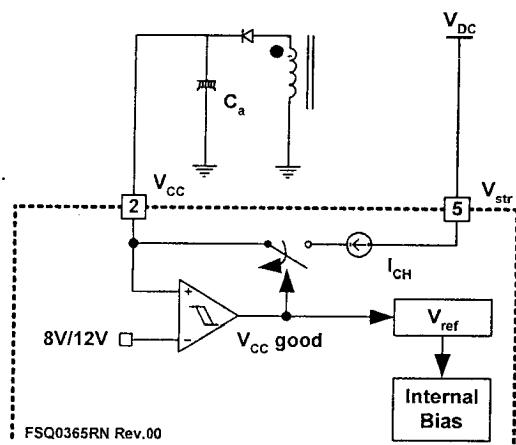

Figure 20. Start-up Circuit
- Startup:** At startup, an internal high-voltage current source supplies the internal bias and charges the external capacitor (C_a) connected to the V_{CC} pin, as illustrated in Figure 20. When V_{CC} reaches 12V, the FPS begins switching and the internal high-voltage current source is disabled. The FPS continues its normal switching operation and the power is supplied from the auxiliary transformer winding unless V_{CC} goes below the stop voltage of 8V.